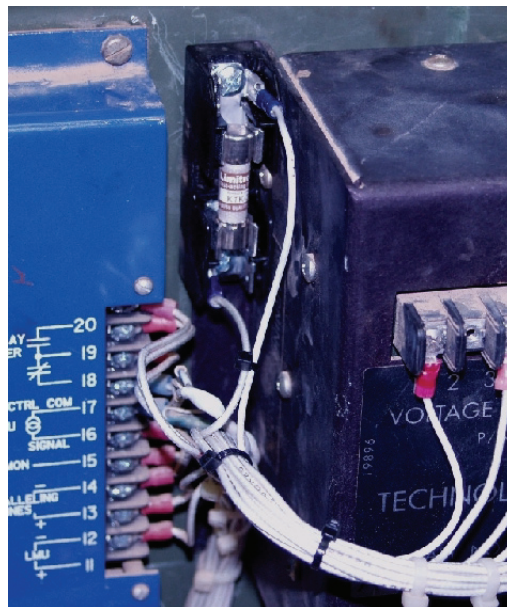

Figure 5 Completed Modification
10. Using the wire ties provided, neatly tie the new wire to the existing wiring harness. (Figure 5)